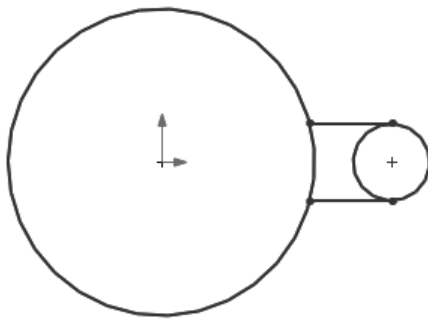

Figure 3-6 Sketch after drawing the lines
18. Right-click in the drawing area and choose the **Select** option from the shortcut menu to exit the **Line** tool. Figure 3-6; shows the sketch after drawing the horizontal lines.